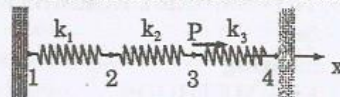

Fig. 2
- b) For the spring system shown in Fig. 2.  $k_1 = 100 \text{ N/mm}$ ,  $k_2 = 200 \text{ N/mm}$ ,  $k_3 = 100 \text{ N/mm}$ ,  $P = 500 \text{ N}$ ,  $u_1 = u_4 = 0$ . Calculate :
- The global stiffness matrix. (6)
- The nodal displacements at 2 and 3. (4)
- The reaction forces at node 1 and 4. (3)